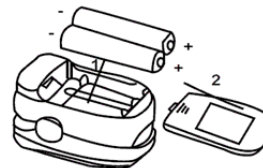

Fig 3
- Install Batteries - Insert two AAA batteries into battery compartment in the correct position and place battery cover (FIG.3)